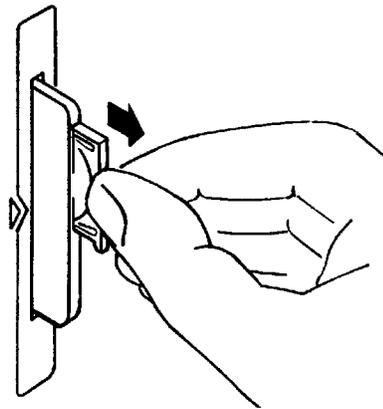

Figure 22 Replacing the Memory Card's Battery
2. Hold the memory card in the slot with one hand and pull the battery holder out with your other hand. (See Figure 22.)